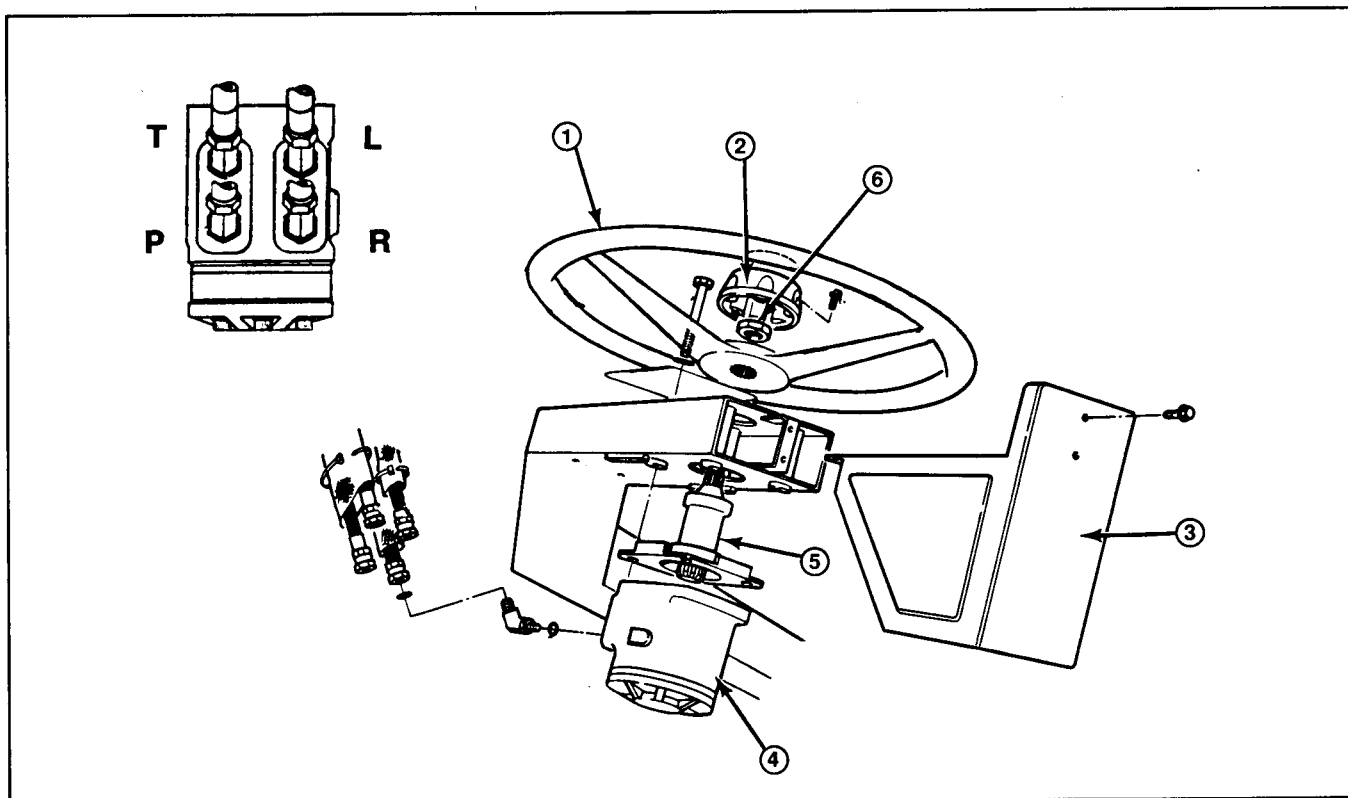

Figure 40
2. Clean the outside of the steering valve and the area around the hydraulic fittings. Disconnect the hydraulic hoses from the steering valve (Fig. 40). Put caps or plugs on all the fittings and hoses and tubes to prevent contamination.